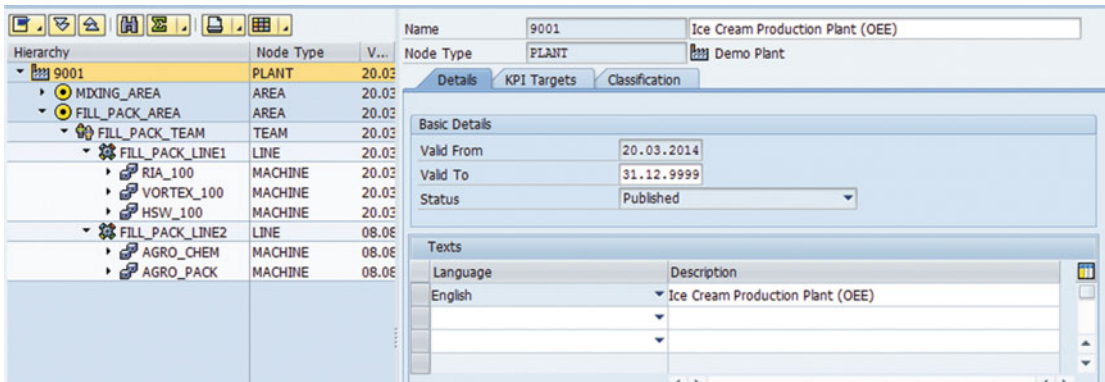

Figure 3-42. Configure plant hierarchy nodes
7. Follow the same steps until the last node is created (refer to Figure 3-42).